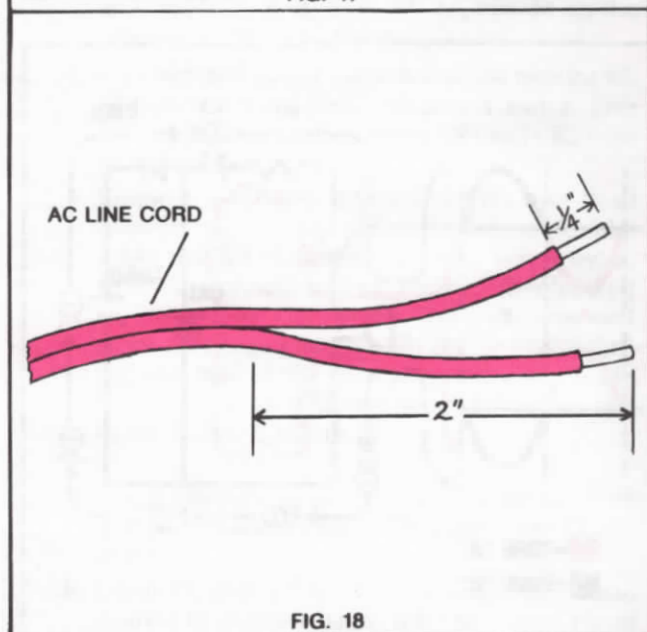

FIG. 18
10. Separate the line cord leads from each other for a distance of 2 inches from the end. (Refer to Figure 18) Strip (remove) ¼ inch of insulation from the free end of each lead. (Refer to Figure 18.)